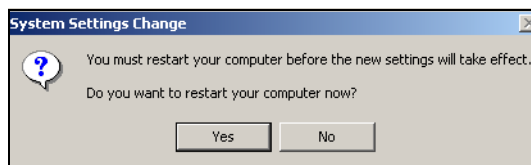

Figure 7-34 *The Systems Settings Change dialog box, click Yes.*
34. Click **Yes** to reboot the system. The TAOS ITP driver will be loaded when the system restarts (Figure 7-34).